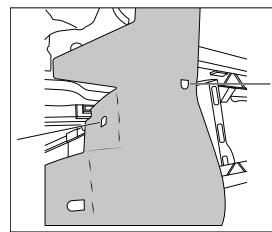

Figure: 1
- Attachment 1: Locate the slit on the side shield and attach it to the hook on the side of the dishwashwe. (See figure 1)